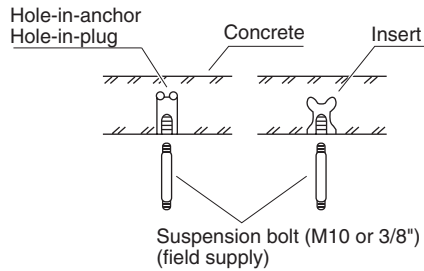

Fig. 3-3
- Insert suspension bolts as shown in Fig. 3-3
- (2) Screw in the suspension bolts allowing them to protrude from the ceiling as shown in Fig. 3-3. (Cut the ceiling material, if necessary.)